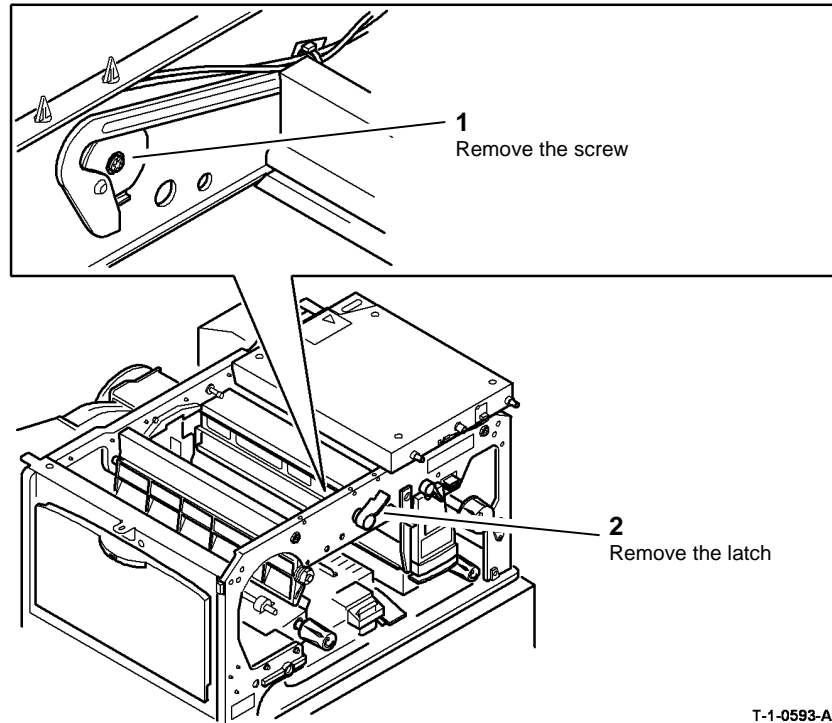

Figure 3 Remove the latch
5. Remove the screw from the latch, Figure 3.